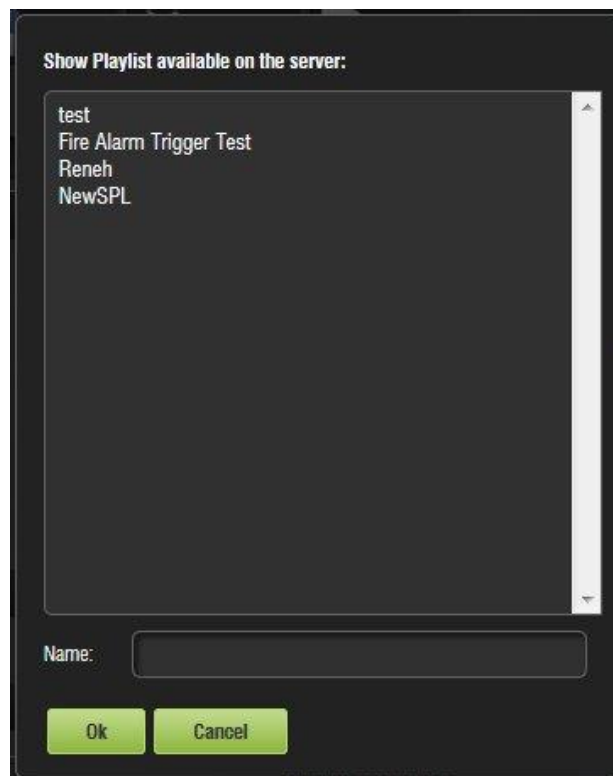

Figure 266: Open SPL Window
- The following window will appear (Figure 266).